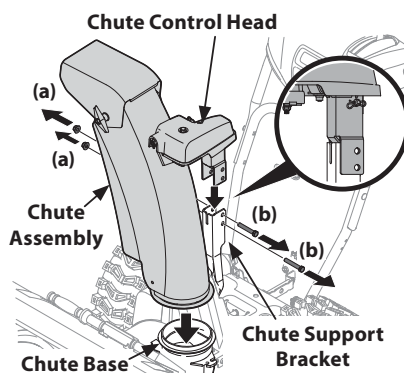

Figure 2-35
1. Remove lock nuts (a) and hex screws (b) from chute support bracket (this will require two wrenches). See Figure 2-35.